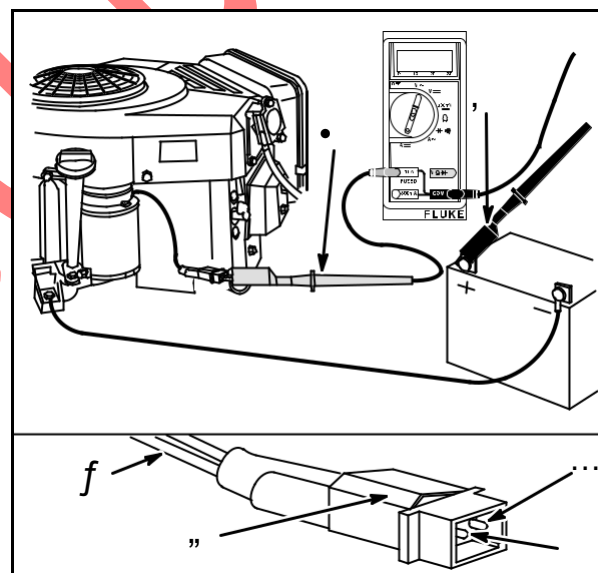

Fig. 16
Attach RED test lead clip (1) to DC output pin (6) in connector (4), Fig. 16.